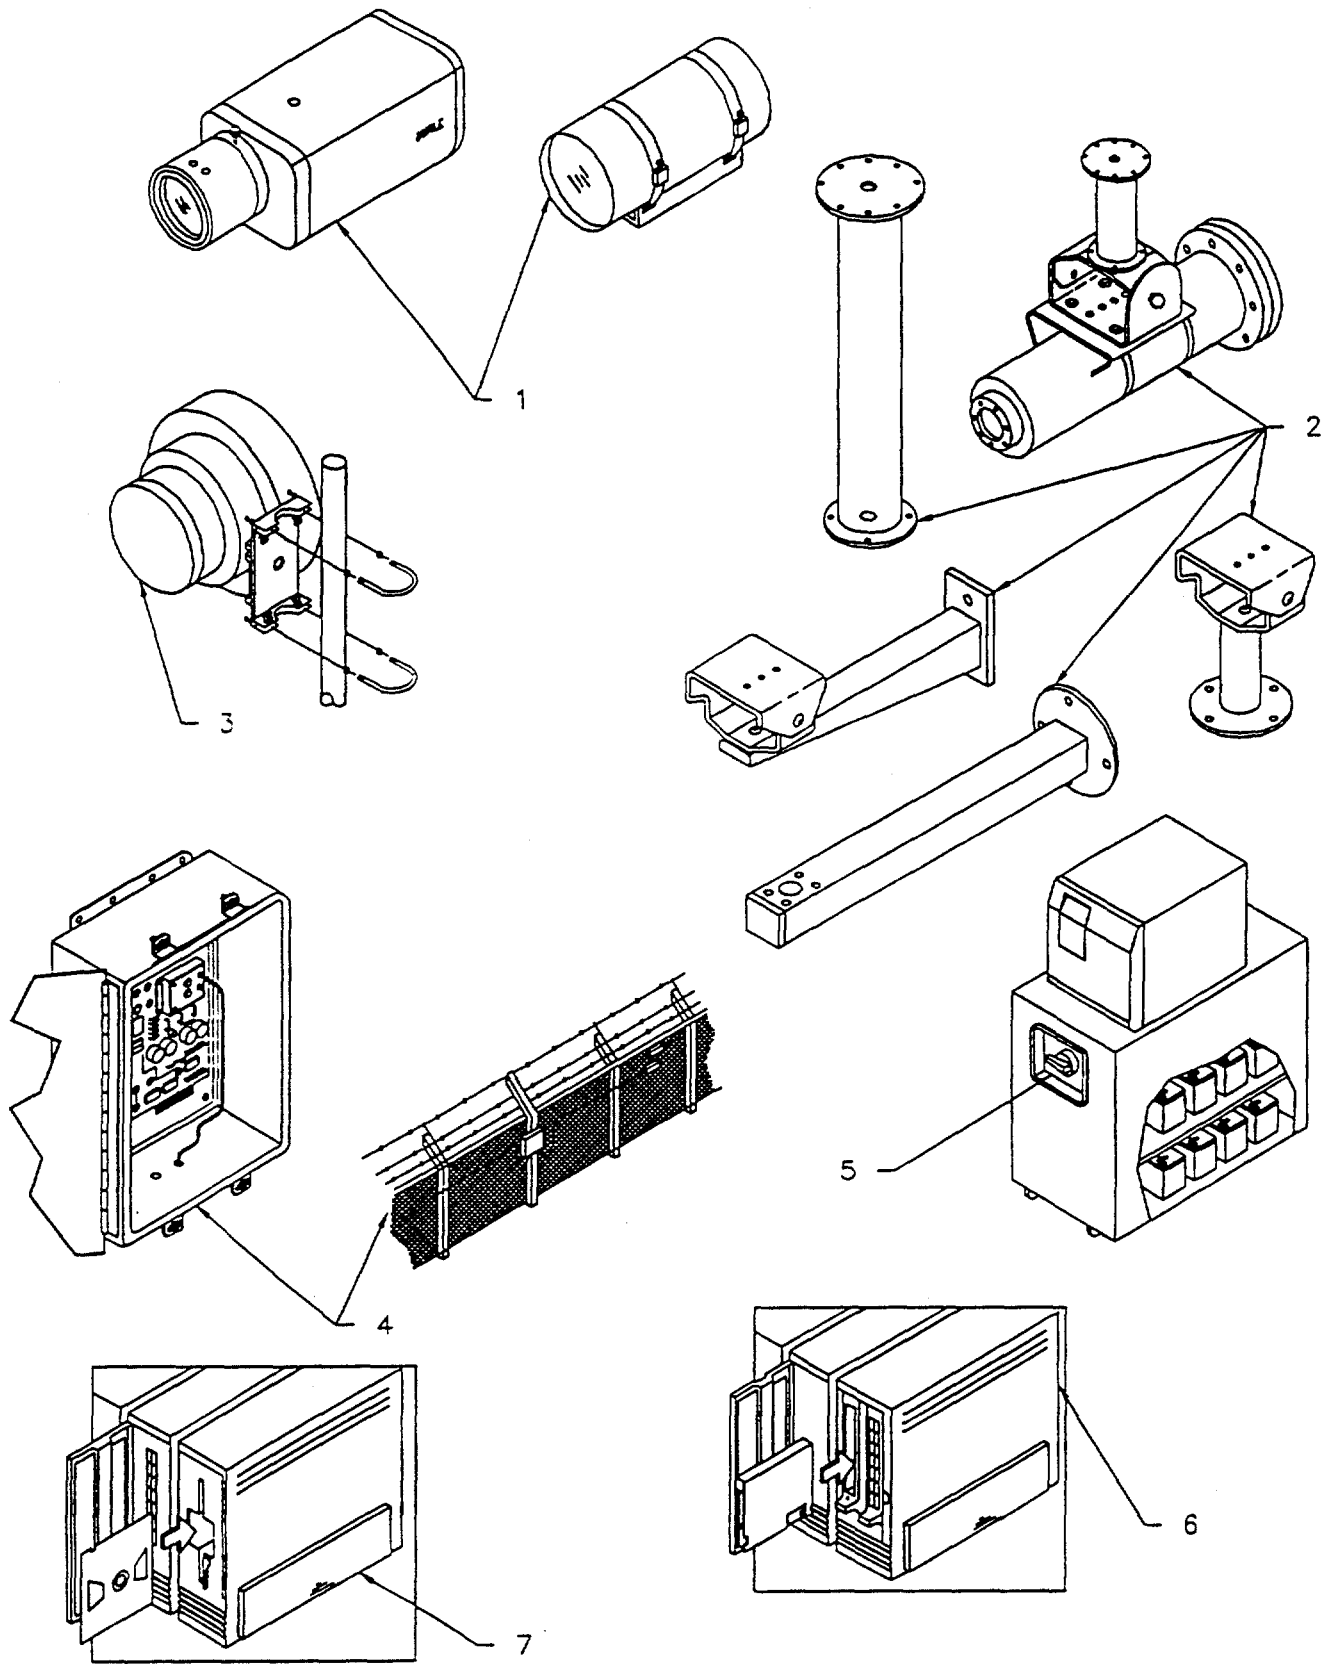

Figure 2-1. PMCS Routing Diagram
**2-8. EQUIPMENT ILLUSTRATIONS.** Figure 2-1 is the illustration and routing diagram showing the order in which checks and services are performed.